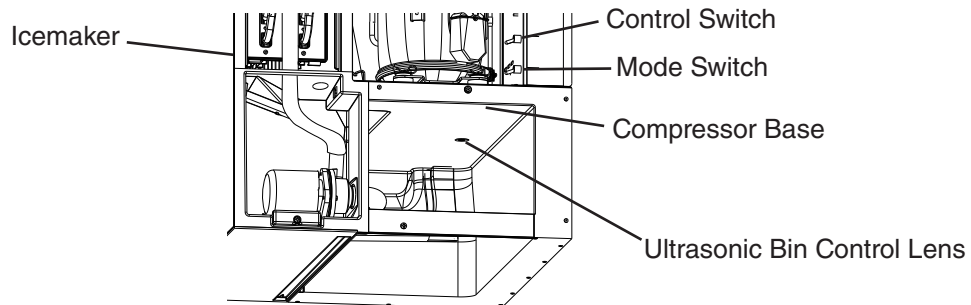

Fig. 19a
- 7) 1 min. fill cycle begins. Place an object 5" to 7" (127 to 178 mm) away from the bin control lens. See Figs. 19a, 19b, and 19c. 15 sec. later, the icemaker shuts down. Remove the object from the bin control lens. 30 sec. later, the icemaker restarts. For bin control shutdown times per cycle, see the table below: